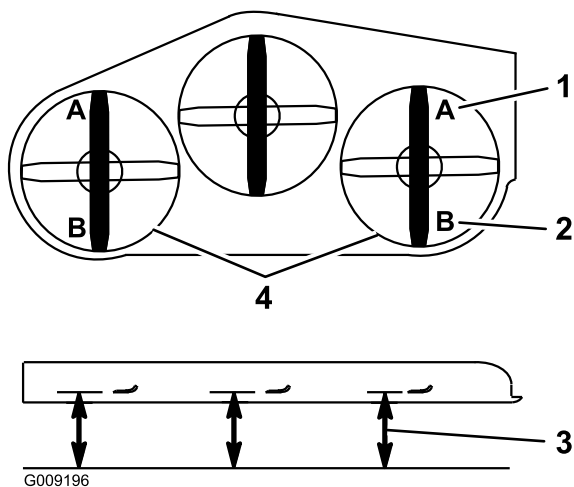

Figure 113
9. On both sides of the deck, measure from the level surface to the front tip of the blade (Position A) as shown in Figure 113.
15. On both sides of the deck, measure from the level surface to the back tip of the blade (position B) as shown in Figure 113.